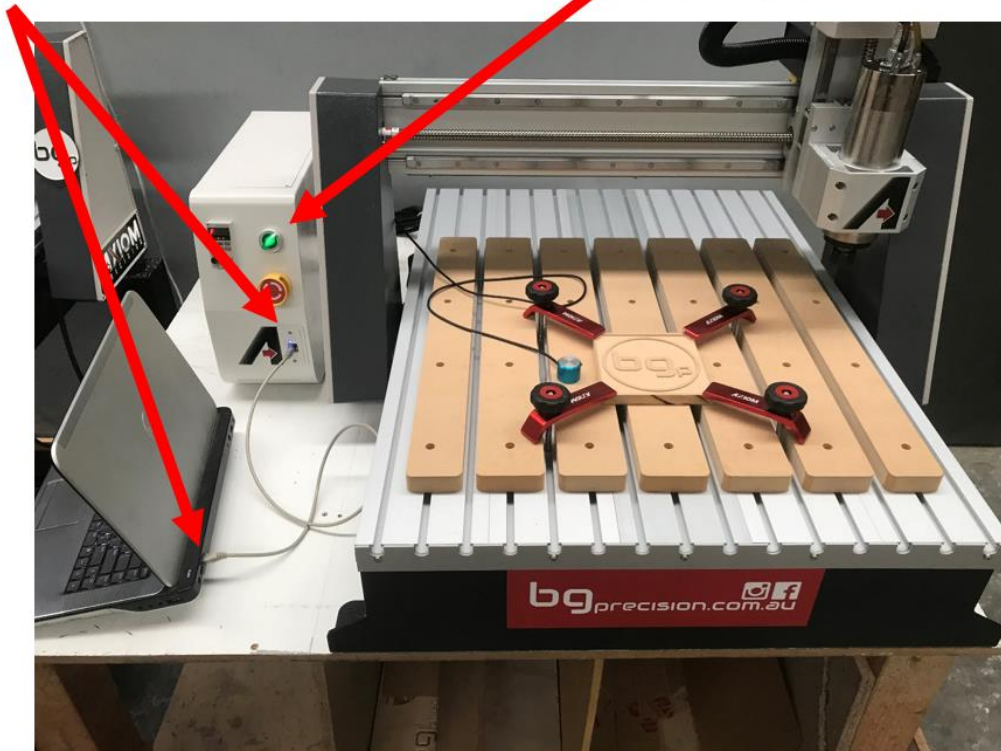

Figure 19: Turn on mains green power switch and plug in Ethernet connector into PC and controller
- Figure 19 shows the green switch in the ON position